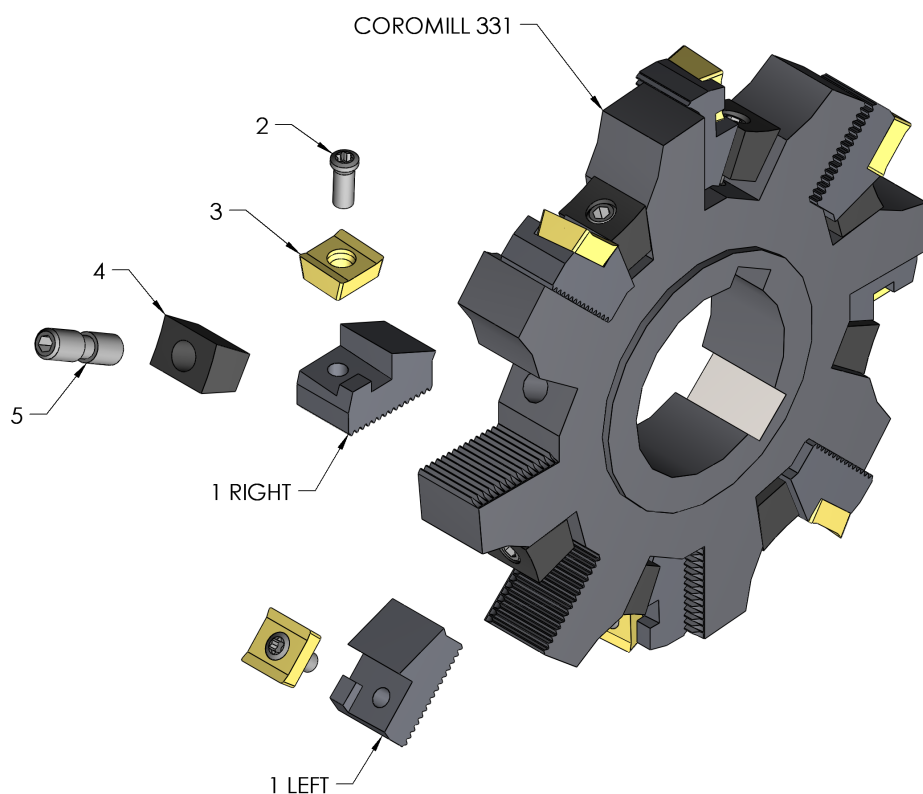

Figure 4. Slot Cutter Assembly
2. Remove the Insert Screw (2) shown in Figure 4 and install or index the dull Cutter Insert.
3. Insure that the Slot Cutter is Cassette Pocket (1) is clean.
4. Hand position the Cutter Insert (3) between in the Cassette.
5. Securely tighten the Insert Screw (2) with a torque of 26 lb.- in. (3 N·m). The Insert Screw is a type *Torx Plus 15IP*. The recommended *Sandvik* torque wrench is listed below.
6. Continue this process until all (8) eight Cutter Inserts are replaced or correctly indexed.